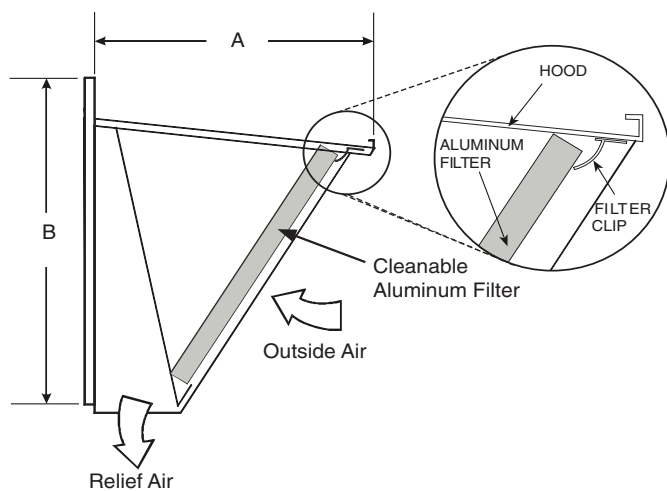

Fig. 18 — EconoMiSer X Hood Detail
28. Install the filter by opening the filter clips which are located underneath the hood top. Insert the aluminum filter into the bottom filter rack (hood divider). Push the filter into position past the open filter clips. Close the filter clips to lock the filter into place. (See Fig. 18.)